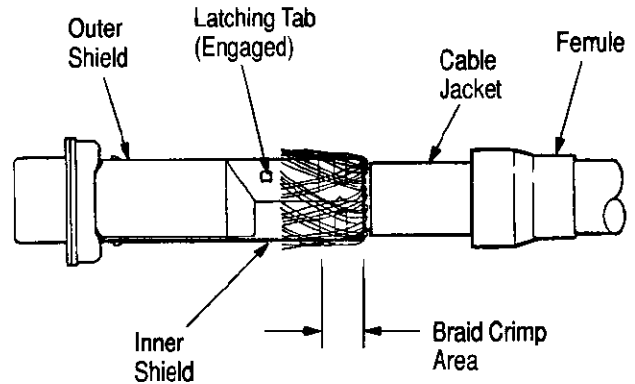

Figure 5
4. Make sure that the inner shield is in its final position and close the outer shield until it latches onto the inner shield with the two latching tabs fully engaged. See Figure 5.
5. Slide the braid over the braid crimp area of the mated shields. See Figure 5.